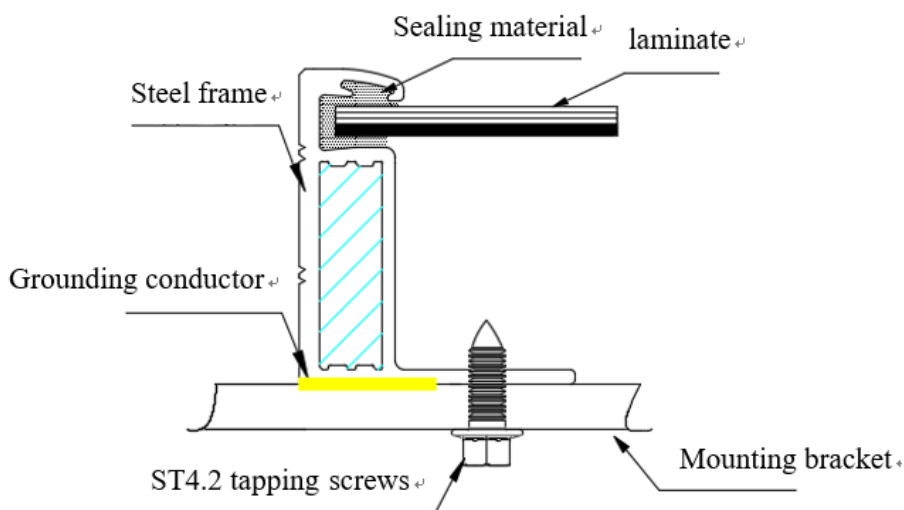

Fig.11.2 ST4.2 tapping screws grounding
- On a grounding hole with a diameter of $\phi 4$ mm, use a separate grounding wire and related accessories to connect the frame and connect the grounding wire to the ground. M4 x 12mm ground bolts with M4 nuts, star washers and plain washers are recommended for the aluminum frame, M4 tapping locking screws or ST4.2 tapping screws are recommended for high-strength alloy steel frames, see fig.11.2, this ensures that the modules are firmly grounded. You can find the corresponding product drawing in module datasheet to know the detailed number, size and position of the grounding holes. The torque applied to ground fixation is 4Nm~8Nm.